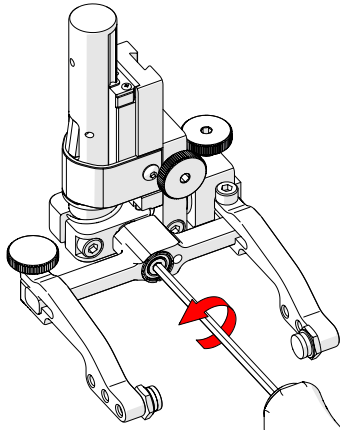

Fig. 105 - Unscrew yoke pivot screw
2. Using the supplied 3 mm hex driver (Fig. 39), unscrew the yoke pivot screw and remove yoke (Fig. 105).